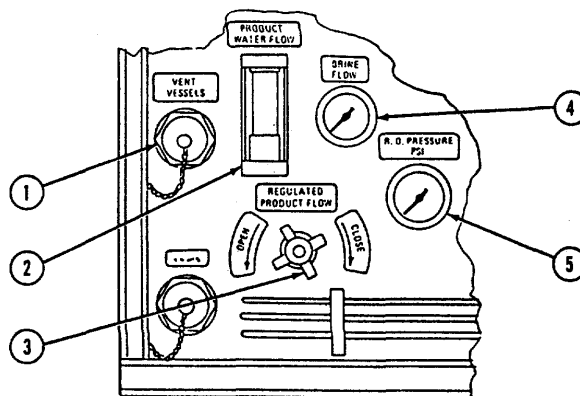

FIGURE 2-64. R. O. PRESSURE AND PRODUCT WATER FLOW GAUGES.
- (3) Check that the REGULATE PRODUCT flow valve (3, figure 2-64) is fully open.